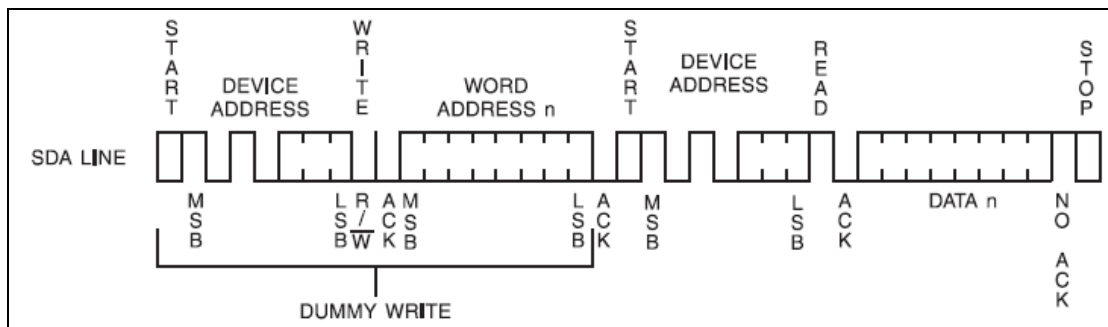

Figure 35 – Timing diagram of byte read operation
12. (?) Connect Channel 0 to the CN19-7 and press the P8 button. Provide a screen capture of the logic analyzer display and identify the control byte, word address and the byte the microcontroller receives. Compare the screen capture with Figure 35. Also monitor the variables DIGIT0-DIGIT3 from the watch window in MPLAB. List the contents stored in these variables. Click the P6 button and observe the changes in the contents stored in these variables.